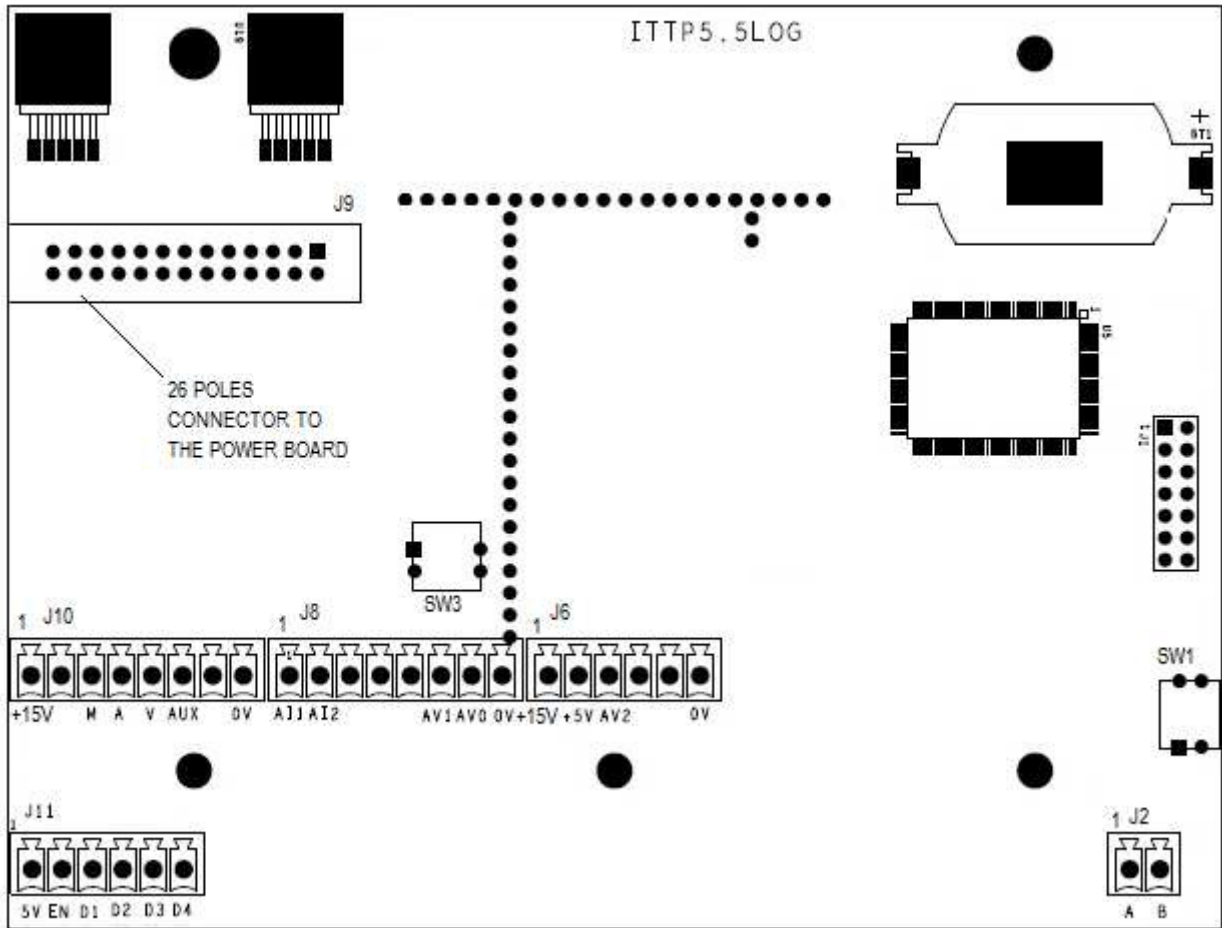

Figure 15: Logic board of ITTP(D) 4/./7.5
- J11-1,2 for ITTP(D)4.0/5.5/7.5 (fig. 15).
- For ITTP4.0 /../ 7.5 models: there is a 12Vdc-100mA max output on the poles marked with M (J10-3) and 0V (J10-8) of the logic board in fig. 15, to which it is possible to connect the 12Vdc coil of a relay.
- For ITTP4.0 /../ 7.5 models: there is a 12Vdc-100mA max output on the poles marked with M (J10-4) and 0V (J10-8) of the logic board in fig. 15, to which it is possible to connect the 12Vdc coil of a relay.
- For ITTP4.0/./7.5: the output is 12VDC-100mA on the poles marked with AUX and 0V (J10-6,8) on the logic board (fig. 15) which can be connected to 12Vdc coil of a relay, to control a second ON / OFF pump, with the same logic insertion mode described above for the IMTP2.2-ITTP2.2 inverters; This output is active only when the control mode is in Pressure (single pump, absolute pressure control);
5.6.9 Terminal connection for the pressure Set Point selection (only for ITTP(D) 4.0-5.5-7.5):
In the absolute pressure control mode, single or group mode (on the master), setting digital input D3 and D4 (J11-5,6, fig.15) it's possible to select a maximum of N°4 pressure reference set points, with the default values described on the table below (adjustable pressure values):
Into the Advanced Function menu select Control Type > Start/Stop Input > Remote, then will be possible to start and stop the Motor closing contacts D1 (J11-3) with +5V (J11-1) on the logic board (fig. 15).
In the absolute pressure control mode, single or group mode (on the master), selecting on the Advanced Function menu > Control Type > Pressure reference Input: 0-10V Input, connect between J8-6 (+10V signal) and J8-7 (0V) and contemporary connect a wire between J8-7 and J8-8 on the logic board (fig. 15).
In the absolute pressure control mode, single or group mode (on the master), selecting on the Advanced Function menu > Control Type > Pressure reference Input: 4-20mA Input, connect between J8-1 (4-20mA signal) and J6-1 (+15V) of the logic board (fig. 15).